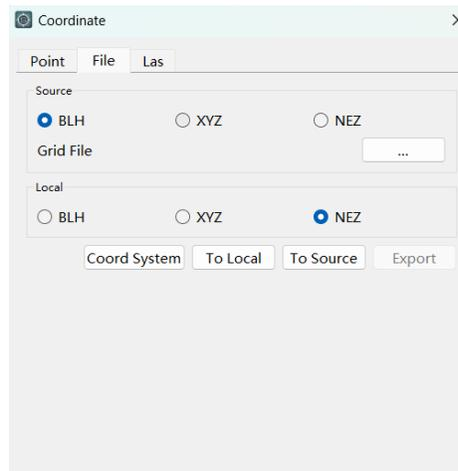

Figure 3-178 Coordinate point file conversion
- Click <Toolbox>→<Format Transform>→<Transform Coordinate> on the main interface, and then click [Coordinate Point File] to enter the interface of coordinate point file conversion (Figure 3-178).